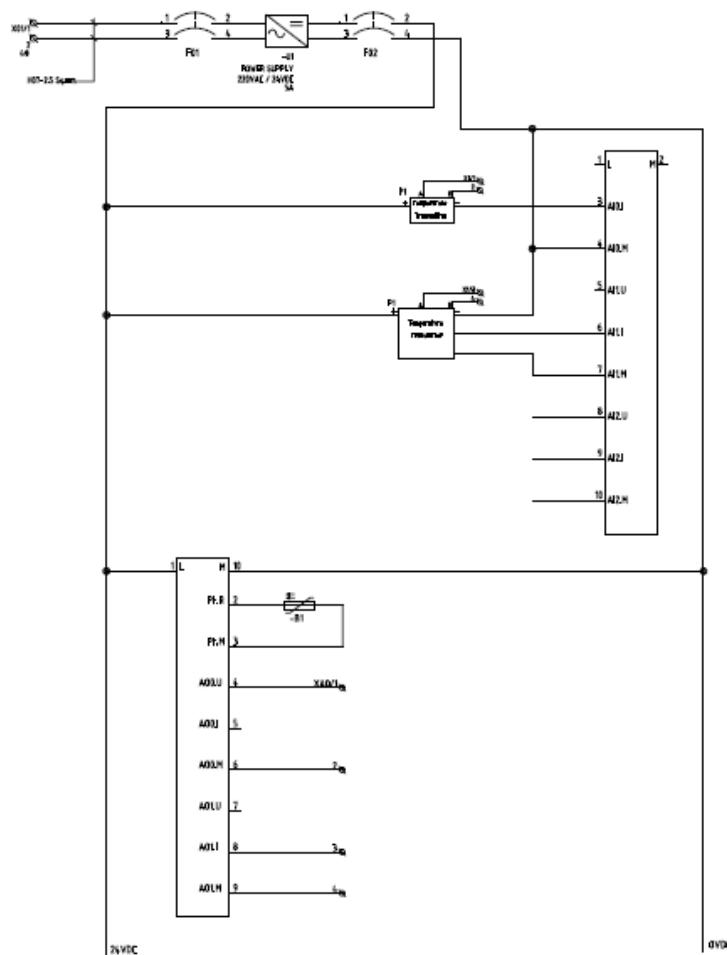

Figure 4.2 Circuit is analog practices.
3. Study the circuit diagram as shown in figure 4.2; try to connect the cable.